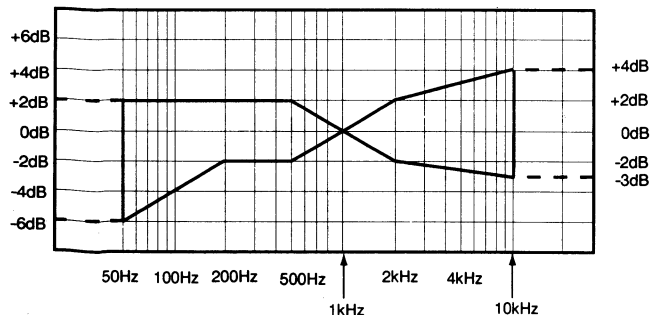

Fig. 10
5. Playback the recorded signals to confirm that the output is within the range of the overall frequency response shown in Fig. 10.